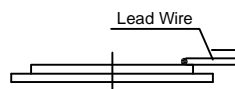

Fig.3.2 Direction of Lead Wire
a) Wire to be soldered on ceramic at the edge. It should withstand minimum 10N force applied in 180° .The wire should not come out before this .The ceramic can be either glued on a surface of can be held in hand.(Fig.3.2)